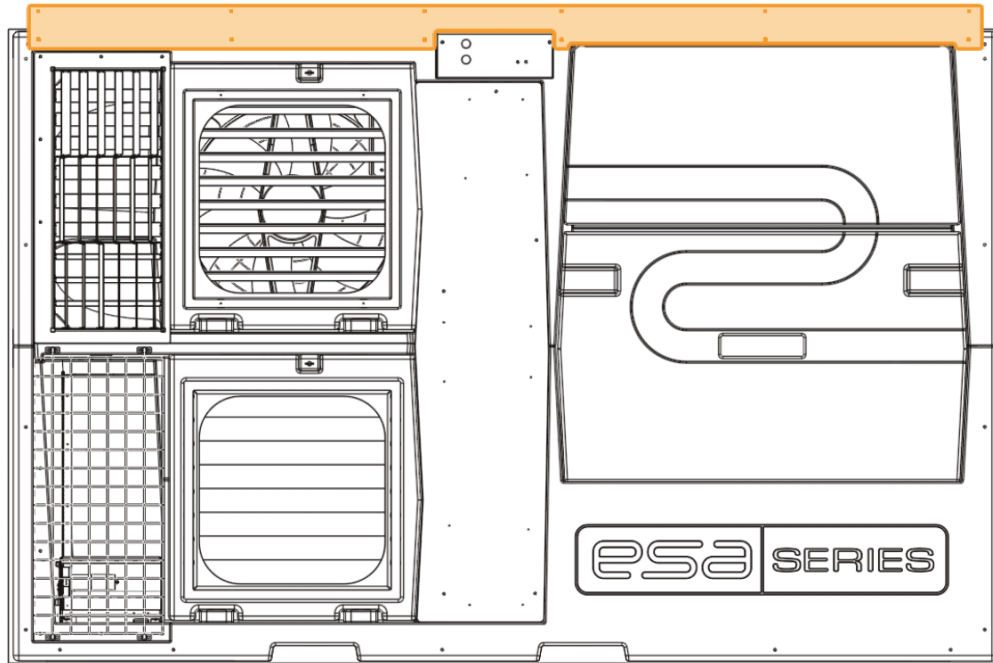

Figure 8 Alignment of the upper frame #1 with the exchanger.
- b. Align the Upper flange #1 with the exchanger, as shown in Figure 8.
- c. Screw it in place with six (6) #14 x 3/4" screws provided (item 5), starting from center. The smaller holes are meant for 3" screws and will be installed later.